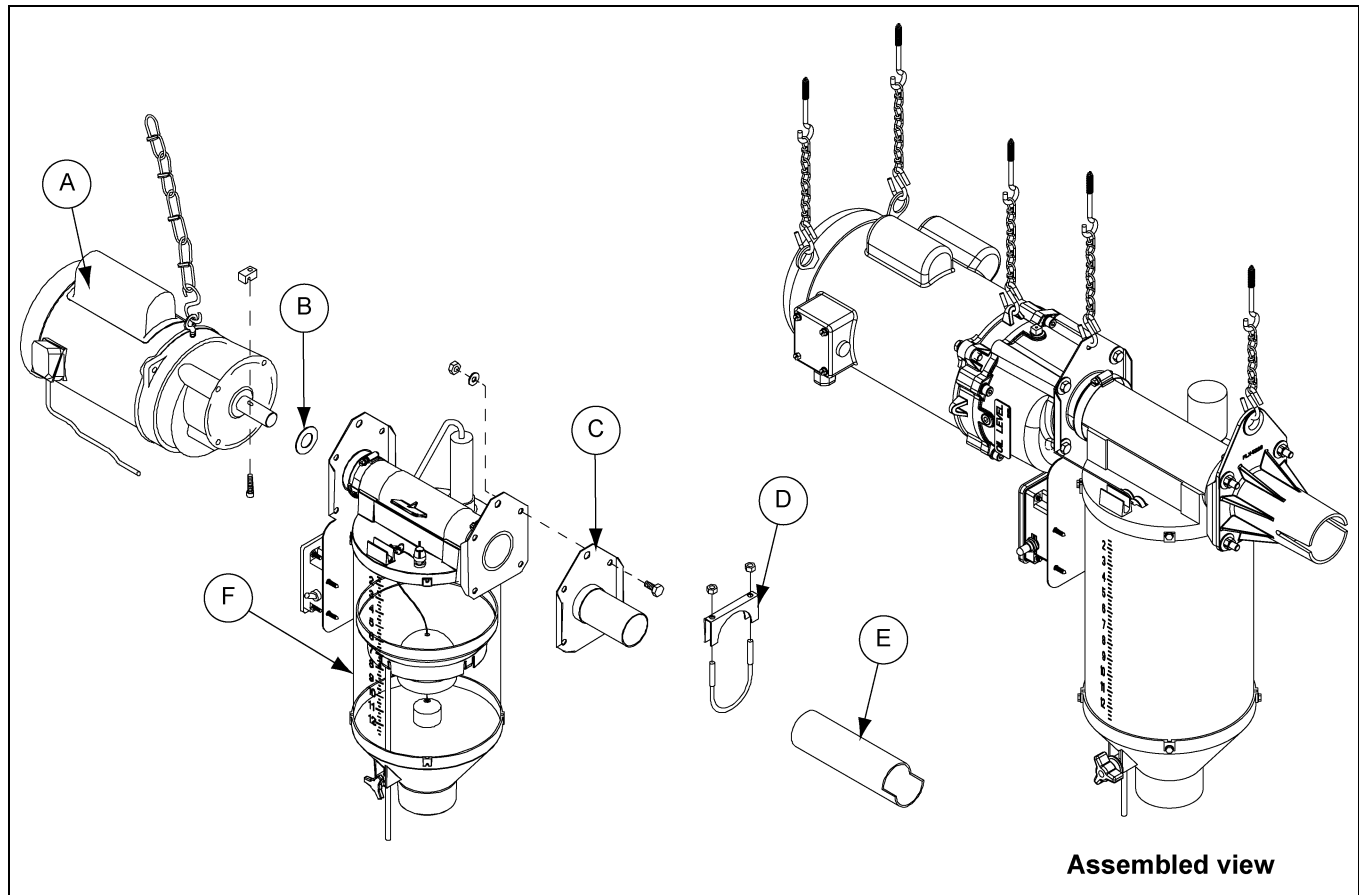

Figure 3E Control Unit with Model 220 Tubing
1. Bolt the Accu-Drop control unit (F) to the Model 220 tube anchor plate weldment using four (4) 5/16" x 3/4" bolts, 5/16" washers and 5/16" nuts. (See Figure 3E.)